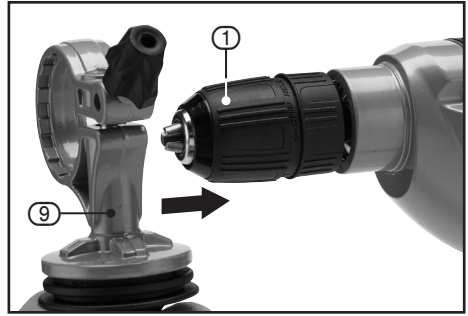

FIG.1
8.1 AUXILIARY HANDLE AND DEPTH ROD – FIGS.1 – 4